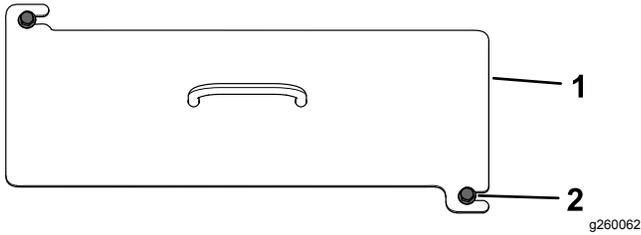

Figure 43
2. Loosen the 2 bolts securing the front cover to the machine (Figure 43).